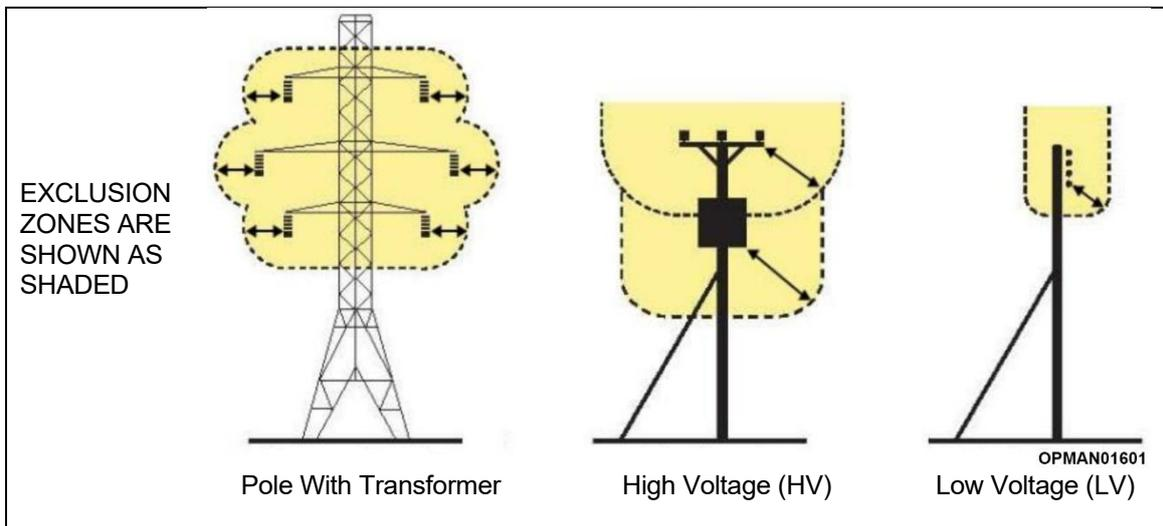
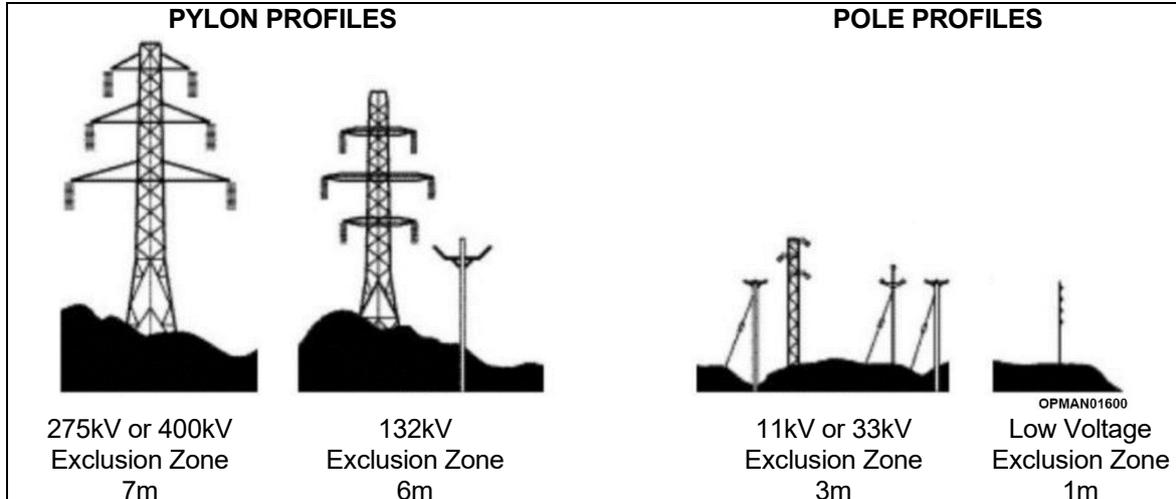

Figure 2.6
Figure 2.7
With reference to Figure 2.7, the minimum safety distance or "Exclusion Zone" is 1m for low voltage OHPL's, with the distance increasing with OHPL's with greater voltages. Definitions as to where the measurements of distance are taken from are defined in Figure 2.6.
- 2.8.4.6 Find out and mark the exclusion zone required from each the OHPL's, see Figure 2.7.